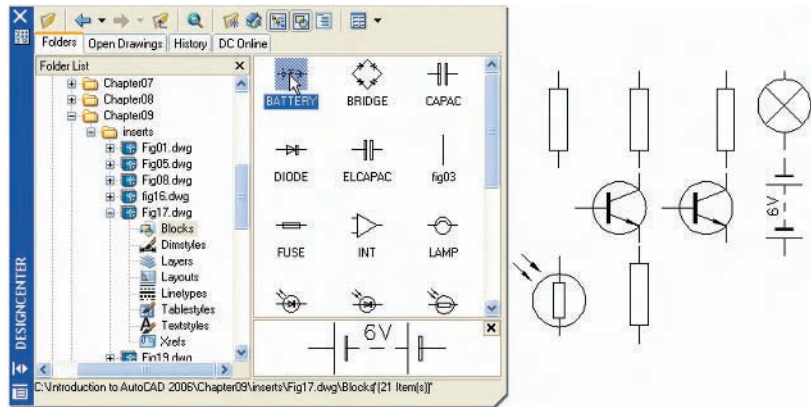

Fig. 9.18 Example using the **DesignCenter**
4. From the **Folder list** select the file **Fig. 17.dwg** and *click* on **Blocks** under its file name. Then *drag* the symbol icons from the **DesignCenter** into the drawing area as shown in Fig. 9.18. Ensure they are placed in appropriate positions in relation to each other to form a circuit. If necessary either **Move** or/and **Rotate** the symbols into correct positions.